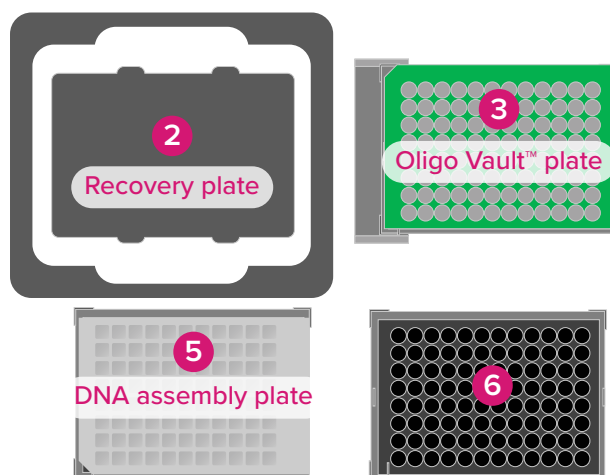

Figure 5: Placement of demo labware after the run
8. Confirm that all deck locations are correct as shown in figure 5, and that the machine displays no errors. Observe that all plate captures and releases are clean and without any out-of-the-ordinary sounds or sudden motions. **Note:** report any issues to your Telesis Bio field application specialist.